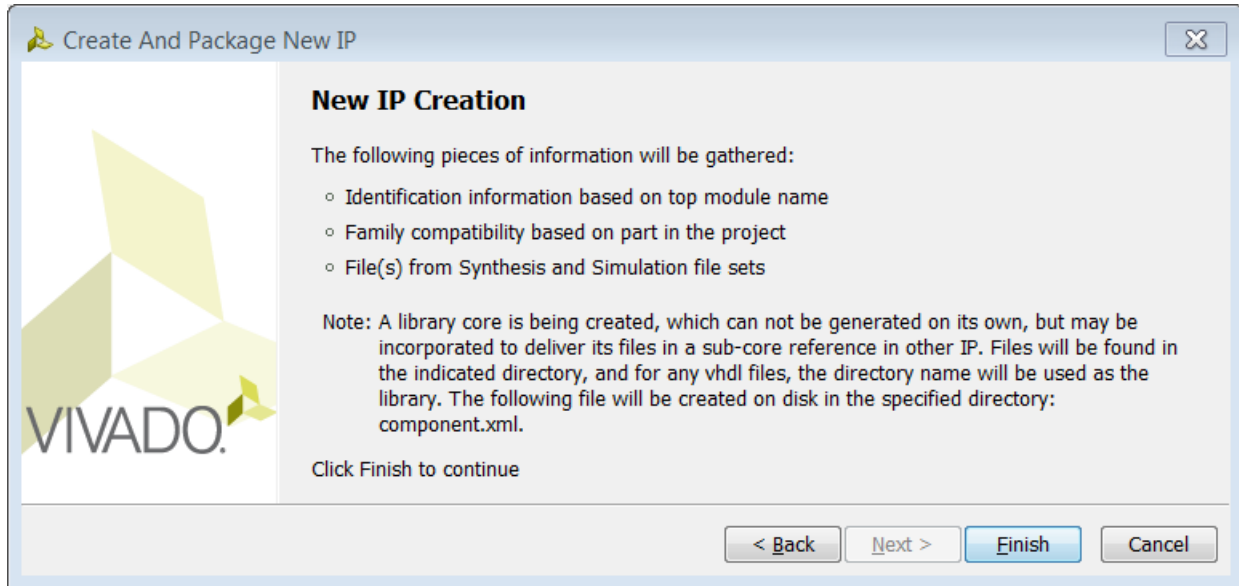

Figure 141: Begin IP Creation page
- In the Begin IP Creation page (FIGURE 141), review the information and click **Finish**.